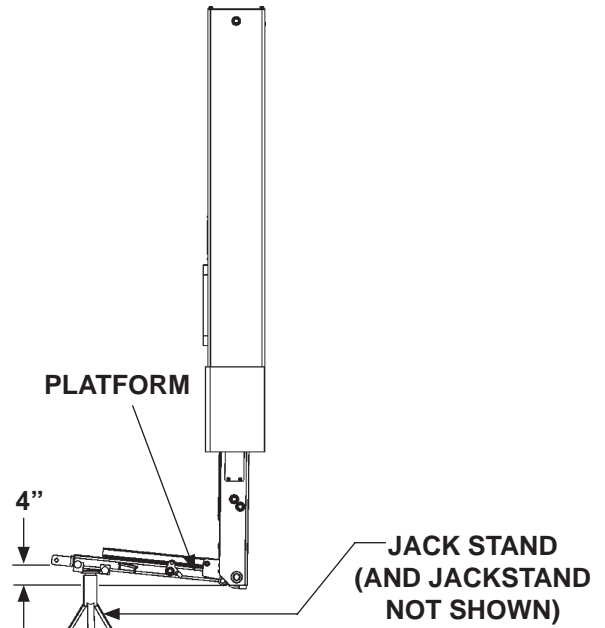

FIG. 23-1
1. Use Control Box to Lower the Platform (**DOWN**) to approximately 12" above the ground. Support Platform with 2 jack stands (**FIG. 23-1**). Make sure outboard edge of Platform is 4" higher than inboard edge.